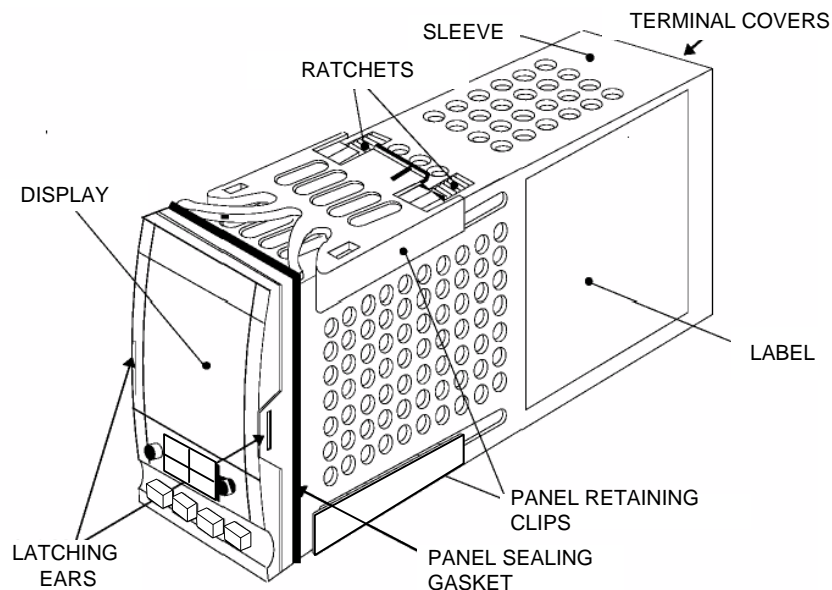

Figure 8-27. Temperature Controller Installation
2. The Temperature Controller is installed in a sleeve as shown in Figure 8-27. To unplug and remove the Controller from its sleeve, simply pry the latching ears outward and pull the Controller out of the panel.